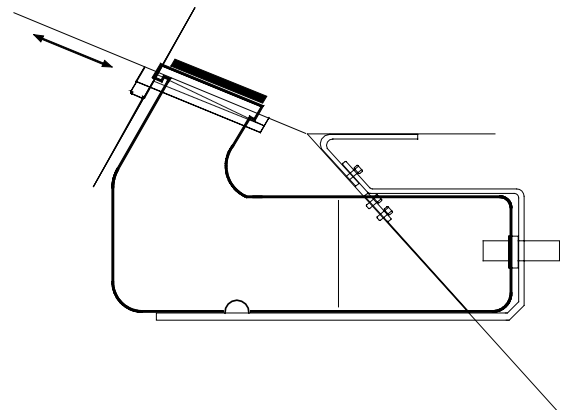

Fig. 23b
### Removing the filter unit (fig. 23b):
- Pull off the entire filter unit (fig. 23b) to the front.